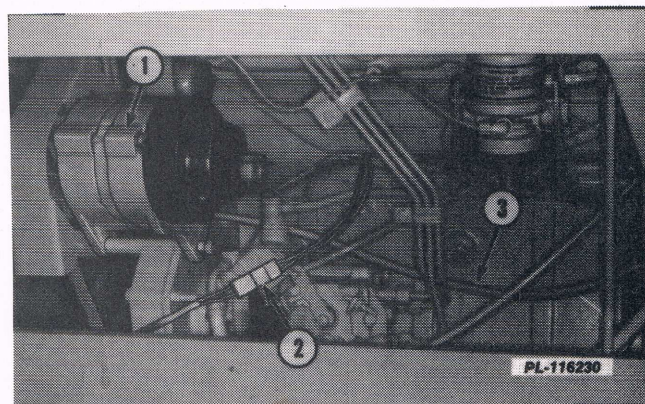

Fig. 4
6. Disconnect the tachometer cable from the engine and move it to the rear. See Fig. 4.
7. Disconnect the wires to the alternator and the wire to the headlights. See Fig. 4.